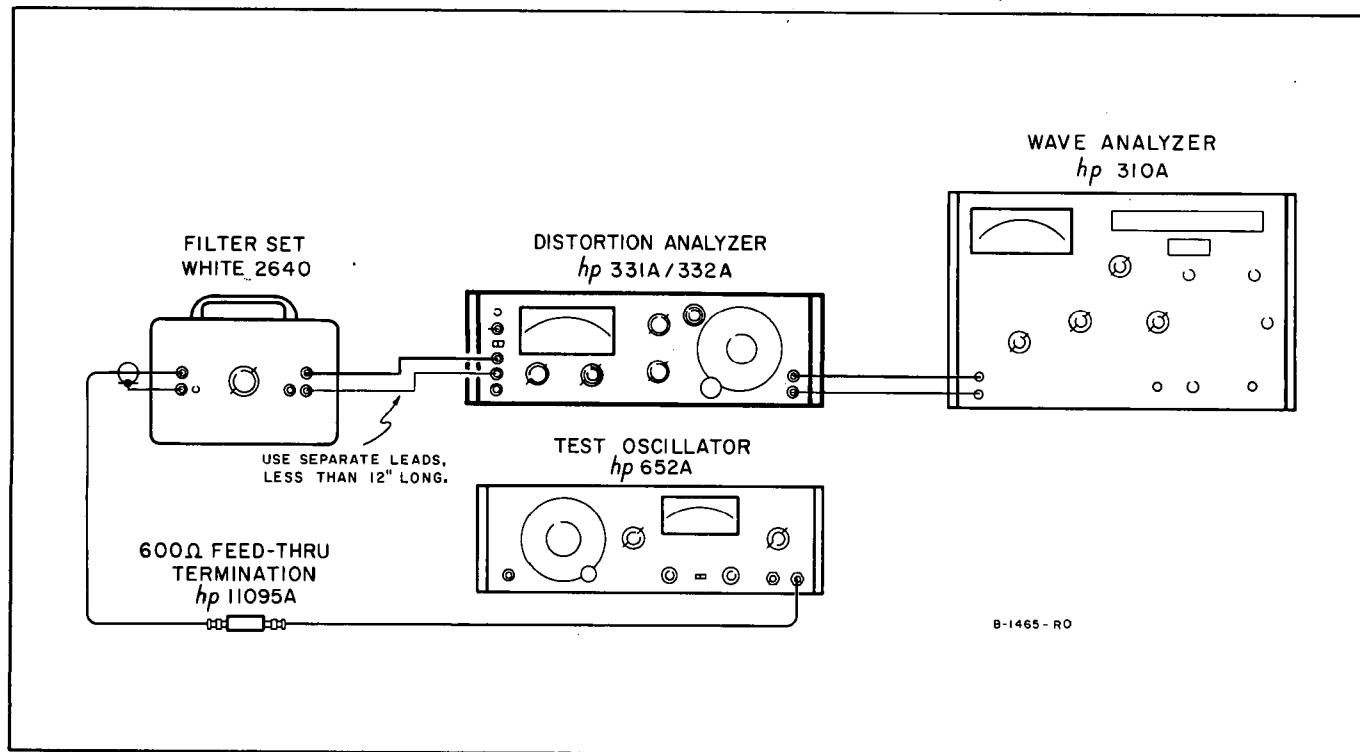

Figure 5-1. Fundamental Rejection Check
- a. Connect test equipment to 331A/332A as shown in Figure 5-1. Set filter pass frequency to 500 Hz.